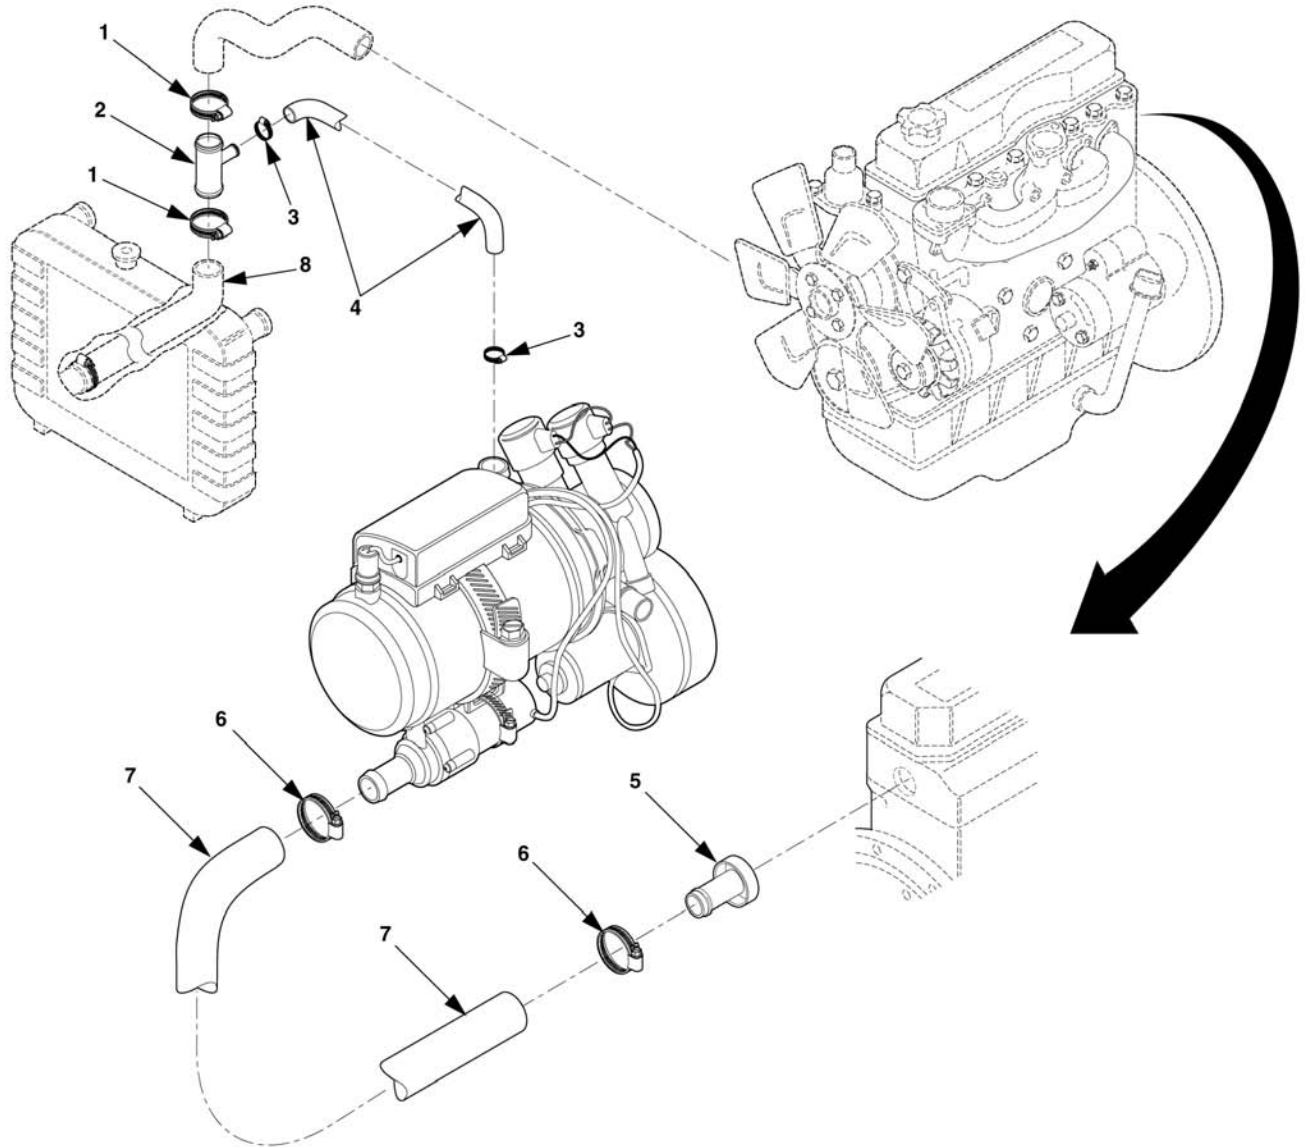

Figure 6-28. Coolant Hoses and Expansion Plug.
- i. Loosen clamps (6, Figure 6-28) and remove coolant hose (7) and expansion plug (5). Replace the expansion plug with the correct type according to the engine manual. Be sure to use a suitable container to catch coolant from hoses. Refer to engine TM 9-2815-254-24 (Isuzu) or TM 9-2815-538-24&P (Yanmar). Remove clamps (1 and 3), coolant hose (4) and coolant hose tee fitting (2) from lower radiator hose (8) and replace with new radiator hose.